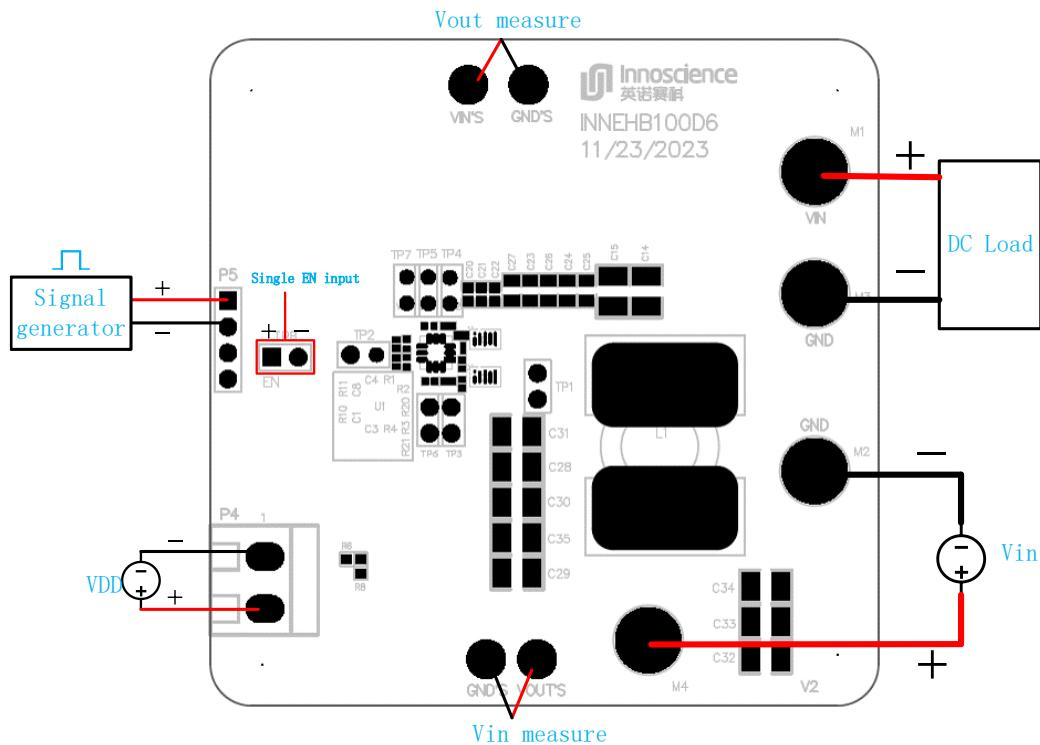

Figure 8 Single-PWM input Boost mode
2. Connect the DC voltage source to VOUT terminal and common ground GND terminal, as shown in Figure 8 (Pay attention to the polarity).
3. Connect the electronic load to VIN terminal and common ground GND terminal, as shown in Figure 8 (Pay attention to the polarity).